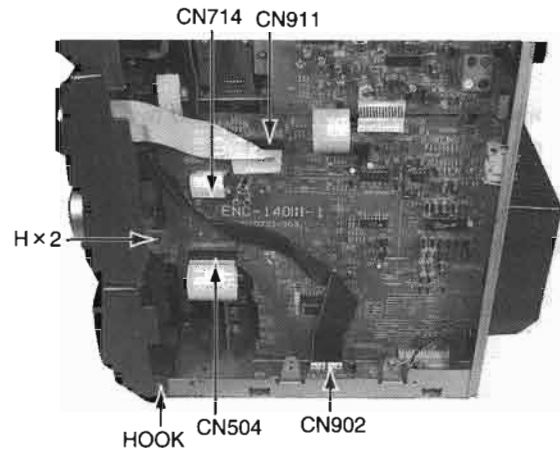

Fig 5
- 3.Disconnect the flat wires on the front P.C.Board and cassette mechanism assembly. (CN902.CN911.CN504) (See Fig.5)
- 6.A flat wire CN714 is removed and MD changer mechanism assembly is removed.(See Fig.5)